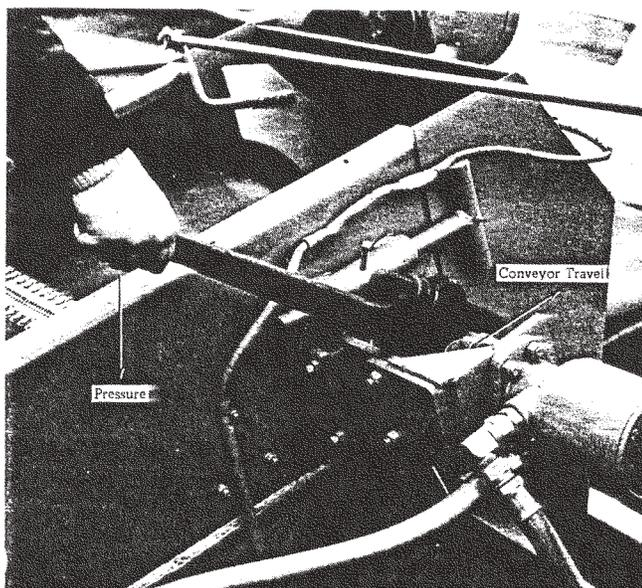

Figure 19
B. Hold (lock) appropriate head pulley with a pipe wrench or other suitable tool. (Figure 19 showing pipe wrench). Use caution when doing this operation.